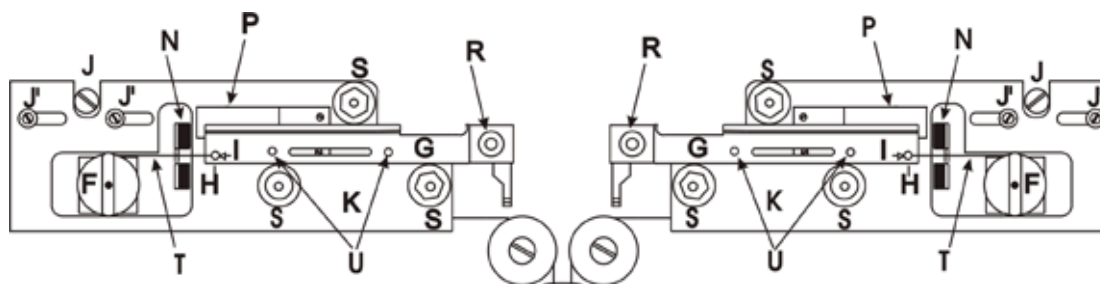

Figure 1-5. Upper cable pulley assembly.
This assembly guides the Pulling Cables (T in Figure 1-5) from the Puller Bars (G in Figure 1-5) to the centrally located (and concealed) Lower Cable Pulley Assembly. Note that the Upper Cable Pulley Assembly is attached to its panel by two screws, in slots (J' in Figure 1-5), and contains a large eccentric adjustment screw (J in Figure 1-5). This eccentric screw is used to adjust cable ‘tension’. Its use is covered in the Maintenance Section, and changes to the settings should not be performed without the supervision of Sutter Instrument Technical Support.
**Panels, Left And Right (K in Figure 1-5)** The panels are the angled surfaces that provide mountings for the Puller Bars and their Bearings, the Spring Stops, the Bumpers, and the Upper Cable Pulley Assemblies. Except for minor differences in shape, the left and right Panels are mirror images of each other. Note the three socket-head cap screws that attach each Panel to the base plate top. These screws are used to align the Puller Bars. Their adjustment, if necessary, is covered in the Maintenance Section. Contact Sutter Instrument Technical Support for more instructions on how the panels are aligned.
**Bumpers (N in Figure 1-5)** The Bumper stops the motion of its associated Puller Bar. Each Bumper also prevents impact forces from breaking pipettes.
**Spring Stops (P in Figure 1-5)** The Spring Stops are one-way catches that catch the Puller Bars as they rebound off the Bumpers so as to prevent pipette tip collision.
**Puller Bars (G in Figure 1-5)** This assembly consists of the puller bar, threaded post, electrode clamp knob, and cable retaining screw. The cable retaining screw (H) holds the cable in a shallow groove (I) at the end of the puller bar, and forms the ‘resistance’ against which the cable ends pull. The puller bar is made of
in Figure 1-5)**